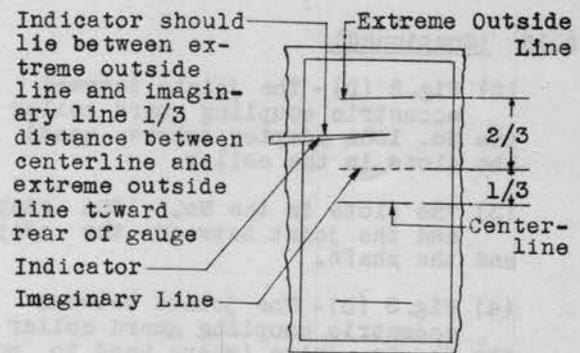

Fig. 5 - Gauging Limit When Checking Short Shafts
(3) When checking vertical drive shafts (short shafts) associated with 15 sequence switch positions or less and not equipped with 10 type bearings, note that the gauge reading as shown in Fig. 5 indicates that the center line of the shaft is in front of the center line of the sequence switches. The shaft is so positioned in order to reduce the possibility of the drive shaft climbing when a number of associated sequence switches are operated simultaneously. In the case of the longer shafts this is not necessary because the weight of the shaft tends to prevent its upward movement.
(4) If misalignment is noted, proceed as follows. If the shaft is too far forward with respect to only four or five switches, insert as many P-126419 washers as required between the sequence switch mounting strap and sequence switch frame. To do this, loosen the upper left-hand and lower right-hand sequence switch mounting screws and remove the lower left-hand mounting screw with the 4" regular screw-driver. Hold the wash-